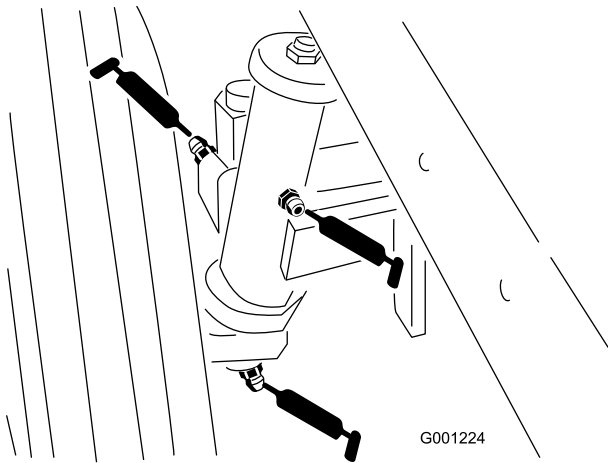

Figure 43
- Rear wheel spindle bushings (Figure 43)